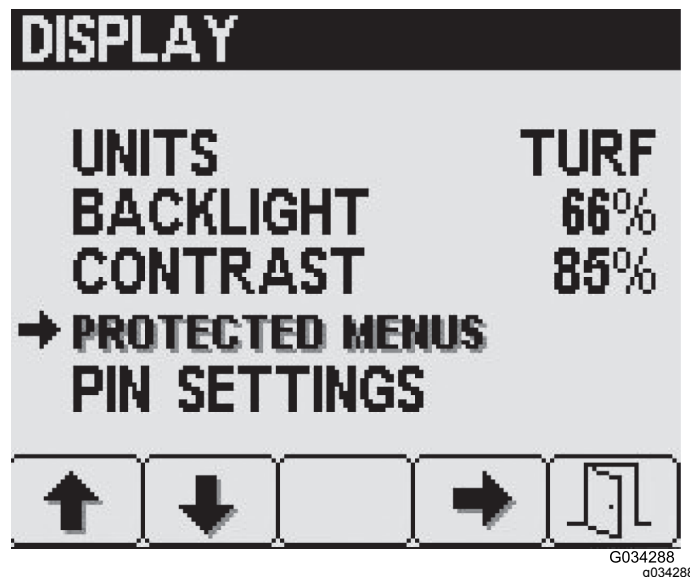

Figure 29
- Press button 2 on the Display settings to navigate to the Protected Menu option, then press button 4 to select Protected Menu (Figure 29).
2. Press button 2 to navigate to the desired protected menu item (Figure 29).